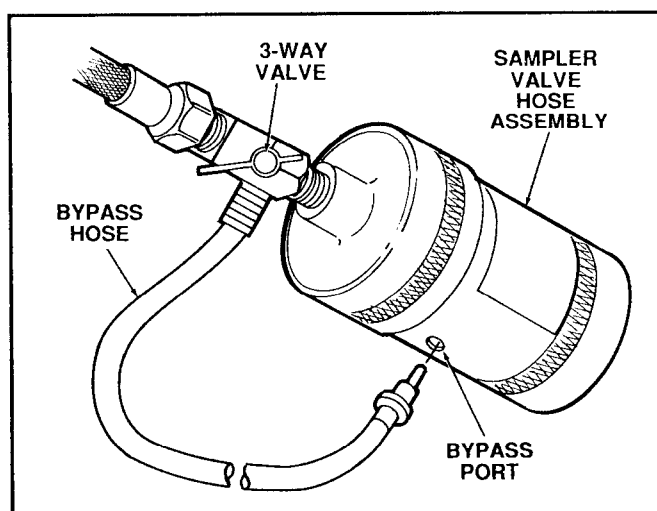

Figure 2.5 Inserting the Bypass Hose into Sampler Base
- b. Connect the bypass hose from the three-way valve to either bypass port located on the sides of the base (Figure 2.5). Press the hose down firmly into the port for a tight fit.
Follow the procedure for assembling the sampler valve hose assembly as described in Section 2.3.4. Refer to Figure 2.5.